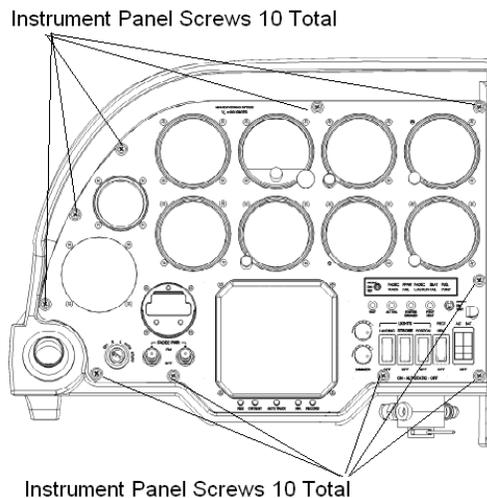

Figure 34-25 Location of the Screws Securing the Instrument Panel
5. Remove the ten screws securing the instrument panel to the instrument console. See Figure 34-25 for location of the screws.